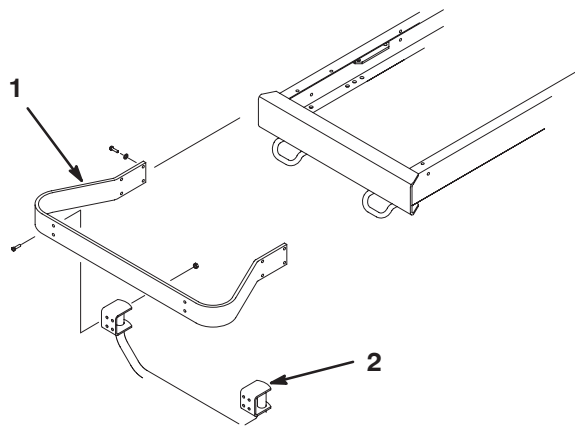

Figure 20
3. Attach the bumper bracket to the frame using eight 3/8-16 x 1-1/4" lg. bolts, washers, and nuts. (Fig. 20).
4. Secure the guard assembly to the bumper bracket with four carriage bolts (Fig. 20).